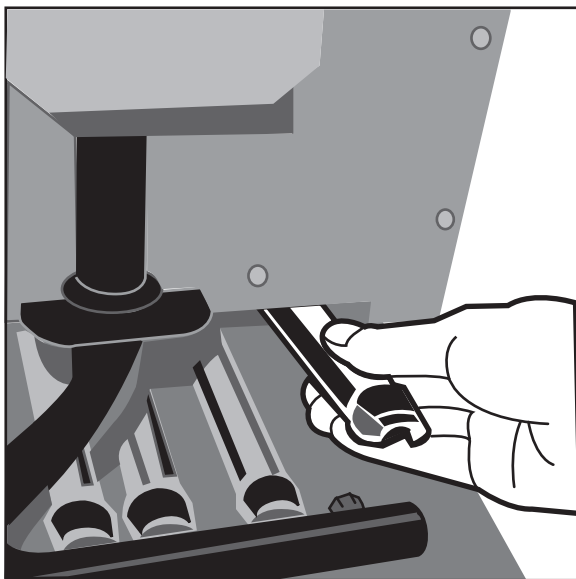

Figure AM- 1
- (1) Remove jacket front panel.
- (2) Disconnect pilot tubing at gas valve.
- (3) Disconnect pilot lead wires at gas valve.
- (4) Remove wires from flame roll-out switch.
- (5) Remove burner access panel.
- (6) Mark location of the pilot main burner on the manifold if the marking on manifold is missing or obliterated.
- (7) Hold burner at throat. Lift front of burner to clear orifice (Figure AM-1). The burner that holds the pilot can only be removed by first lifting the burner adjacent to its right.